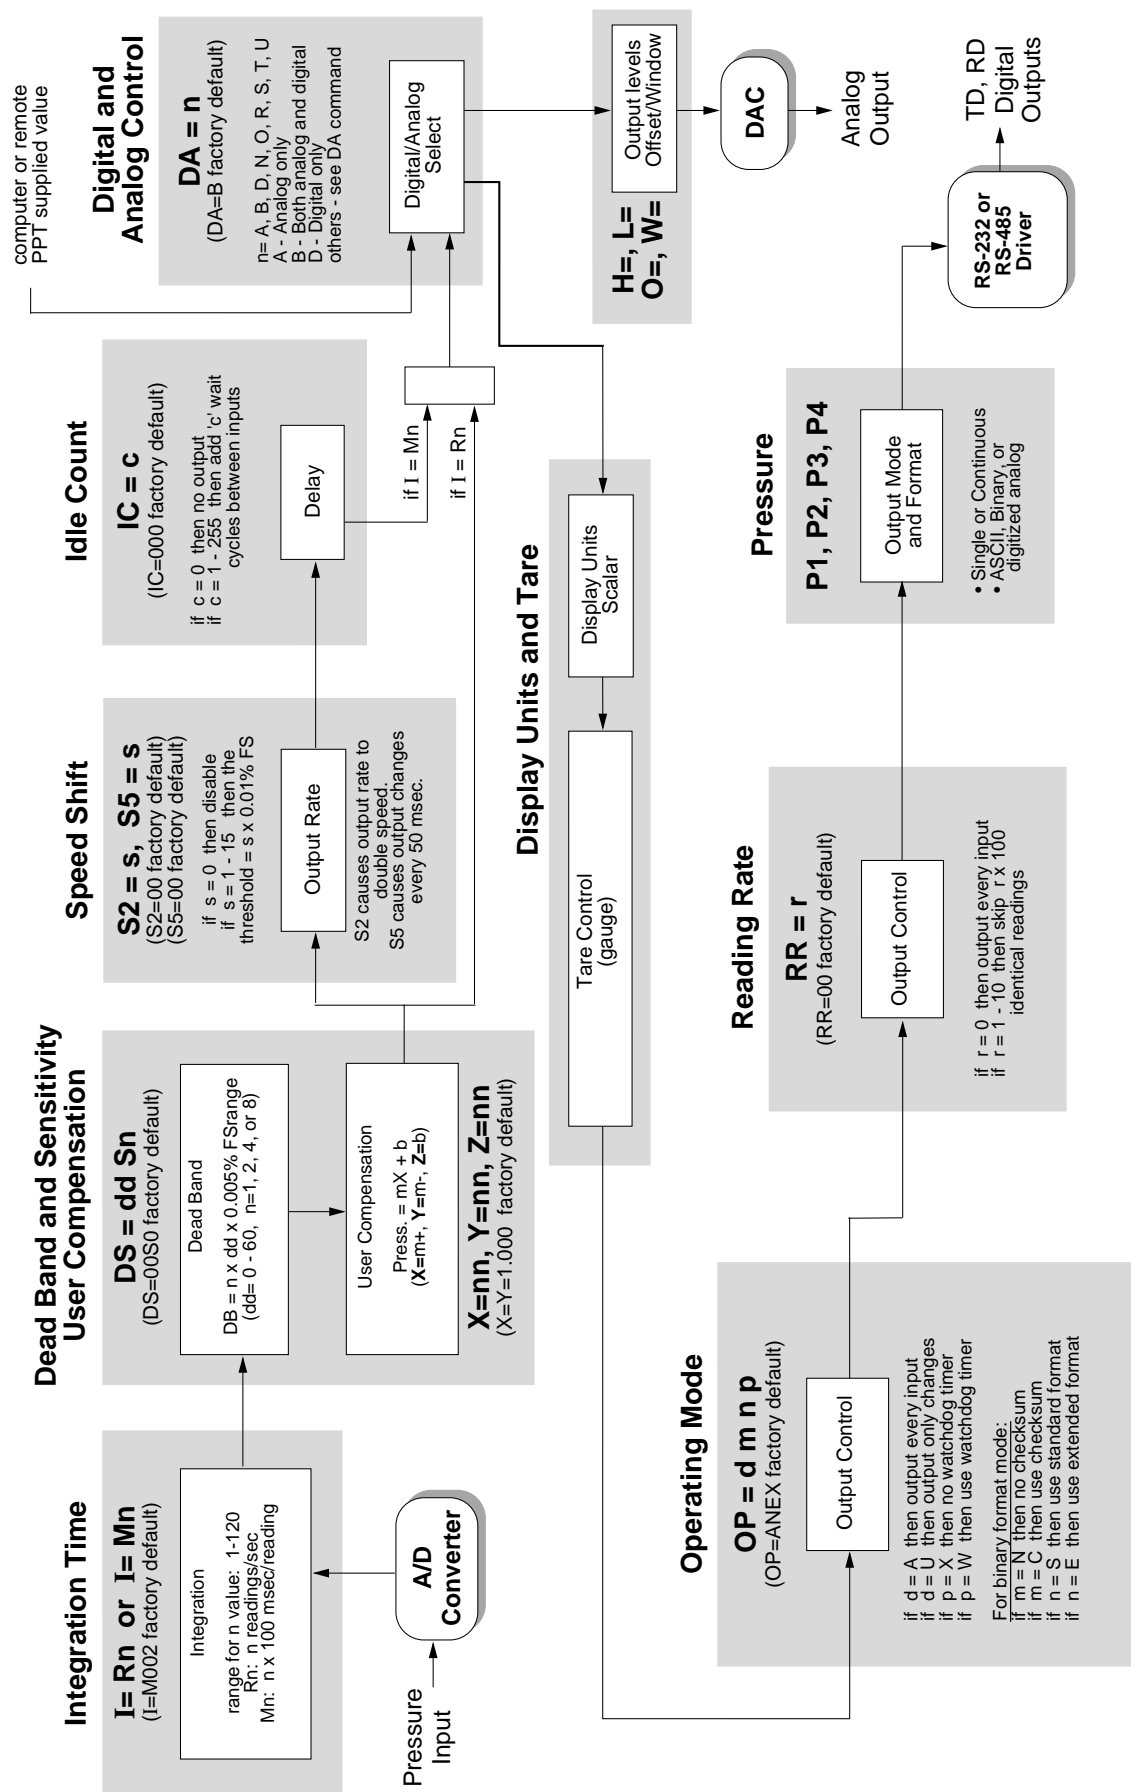

Figure 4.2—Pressure Reading Control
The PPT commands allow considerable flexibility in tailoring pressure acquisition times, sample windows, thresholds, and output rates. These are controlled by 7 commands: Deadband and Sensitivity (DS), Integration (I=), Speed shift (S2), Speed shift at 50msec intervals (S5), Idle Count (IC), Reading Rate (RR), and Operating mode (OP). Figure 4.2 illustrates how the user may control these attributes in three ways: